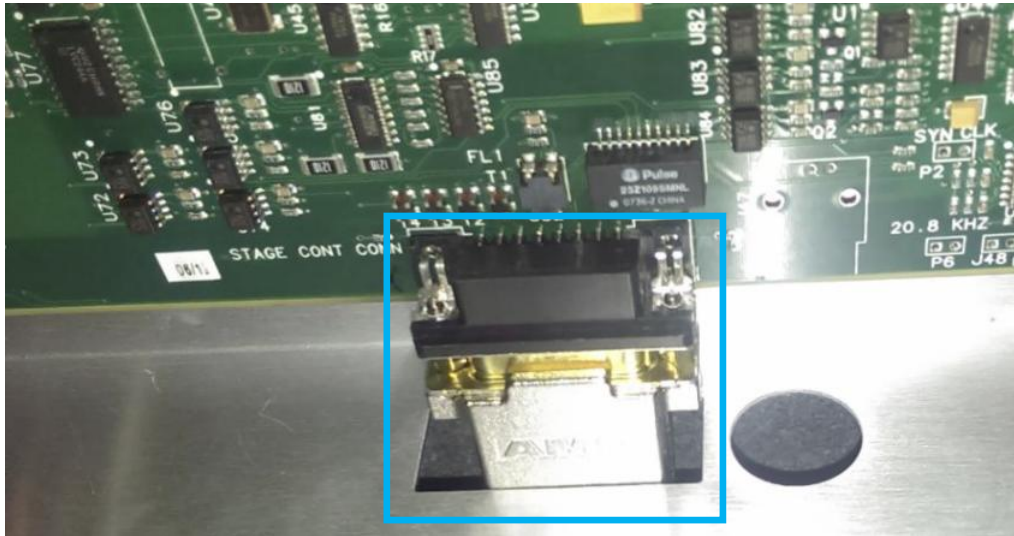

Figure 30 Trigger Board IO Cable connection
14. Connect the CABLE, TRIGGER IO, DBN 15 (P/N, 4XASC-A039) cable into Trigger Board as Figure 30